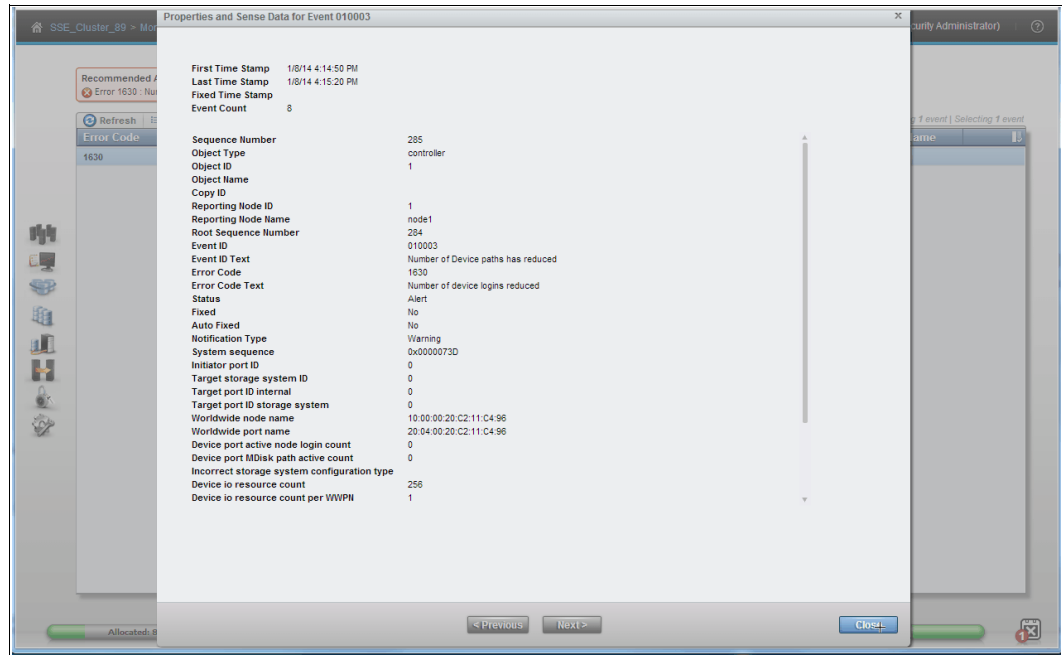

Figure 10-4 Properties and sense data for event window
3. In the Properties and Sense Data for Event sequence_number window (see Figure 10-4, where sequence_number is the sequence number of the event that you selected in the previous step), review the information. Then, click **Close**.